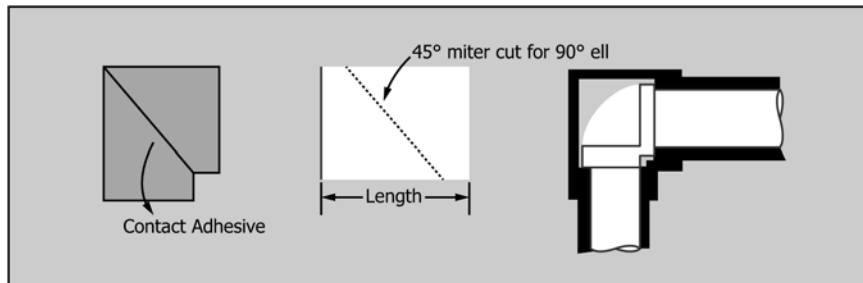

FIG. 6 Fabrication of Elbow
10.2.1 Fabricate 90° elbows from straight tubing. Cut the insulation at 45° angle. Reverse the pieces by 180° to each other. See Fig. 6. Apply contact adhesive to both faces and